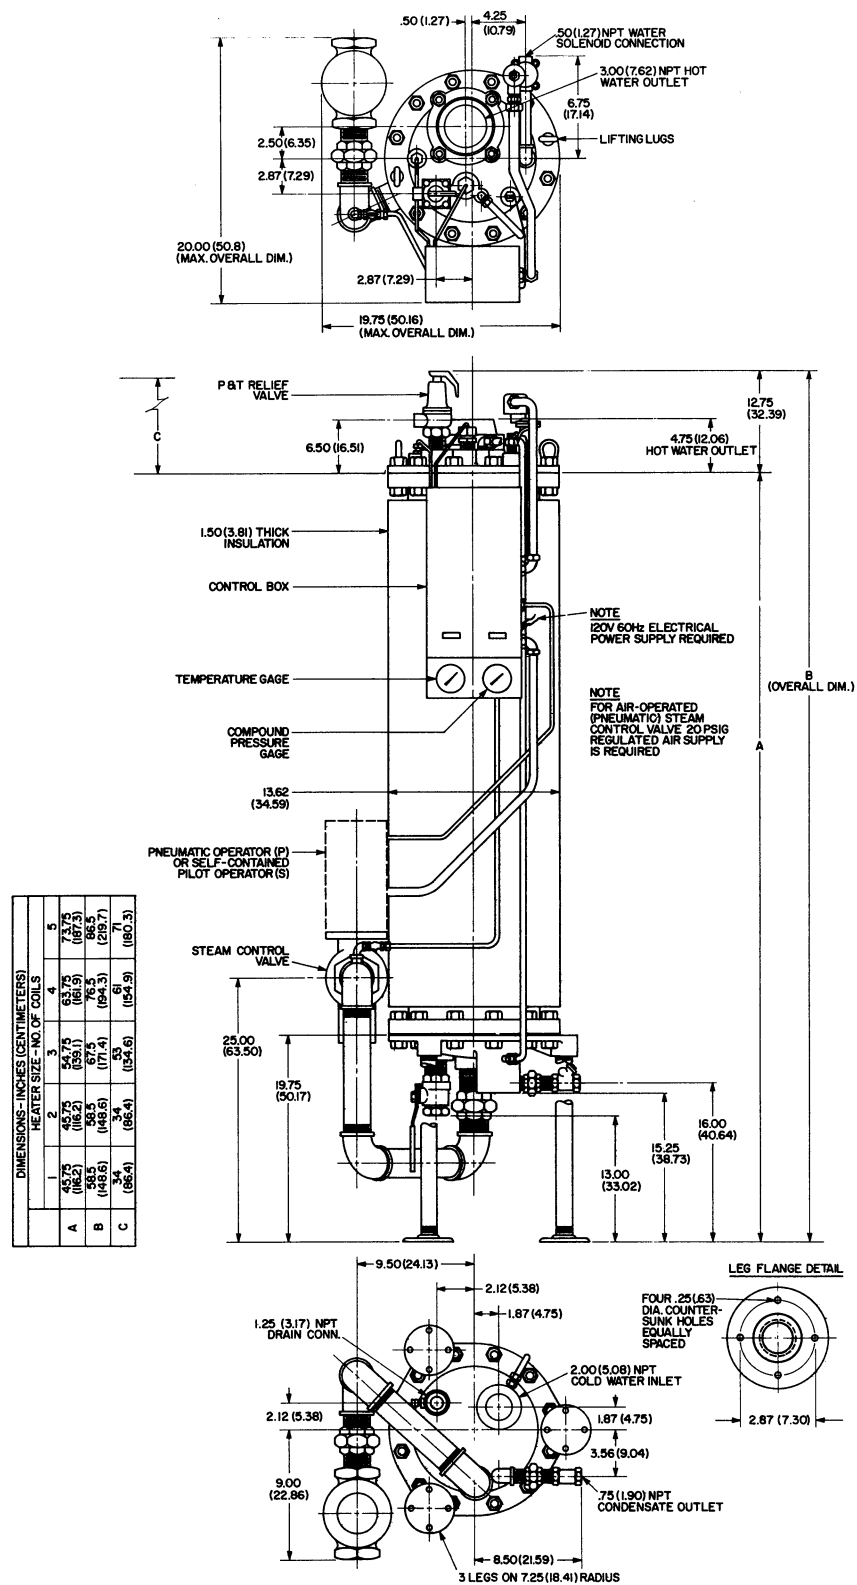

Figure HE-107-1 -- Dimensions for AERCO Helitherm Heat Exchanger
Accessories included in the AERCO A-PLUS Heat Exchanger Package Assembly are (see Figures HE-107-1, HE-107-12, and HE-107-13):
1. Dimensions for an AERCO Heat Exchanger (Heater) Model SW1A-Plus are shown in Figure HE-107-1.
2. Uncrate the Heater carefully. Set the Heater upright by using a block and tackle or hoist attached to the lifting lugs on the top head of the Heater (the eye-bolts shown in Figures HE-107-1 and HE-107-14). Always use the lifting lugs to lift and/or move the Heater.
3. If possible, for easy in-place maintenance, locate the Heater where there is at least 2 feet clearance all around the Heater and where the head room clearance from the top of dimension B in Figure HE-107-1 is at least equal to dimension A for the Heater Model less 12 inches.
- b. For Heater connection types, sizes, and exact locations, see Figure HE-107-1.